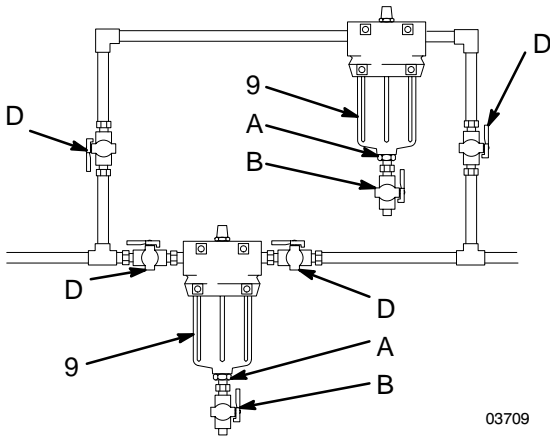

Fig. 1
Install two filters as shown in Fig. 1. Both filters must have an adapter (A) and drain valve (B) in the filter bowl (9) to relieve fluid pressure and drain the filter before removing the bowl. Install four suitable shutoff valves (D), one at each filter inlet and outlet, to redirect the fluid and isolate the filter when not in use.
Before removing, cleaning, or servicing the filter, close the inlet and outlet ball valves (D, Fig. 1) and open the fluid drain valve (B) to relieve pressure.